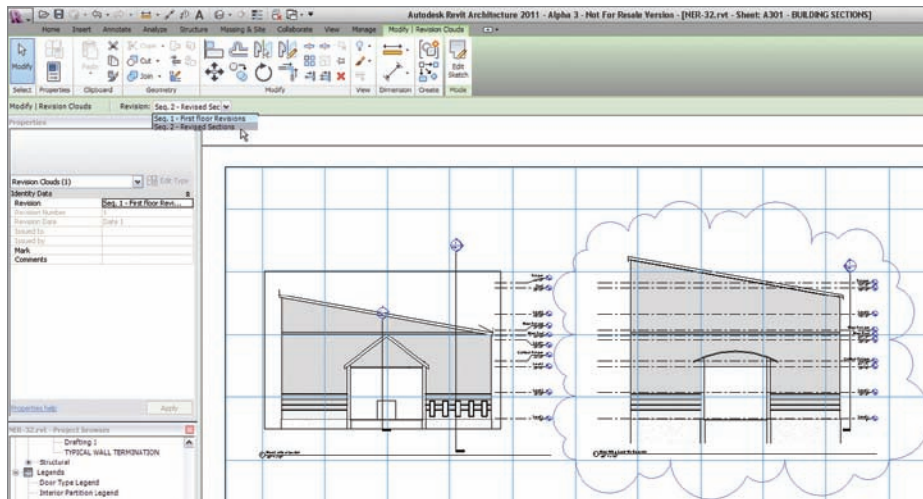

FIGURE 14.21 By selecting the revision cloud, you can specify the sequence from the Options bar.
14. On the Options bar, make sure you have Seq. 2 - Revised Sections selected, as shown in Figure 14.21.